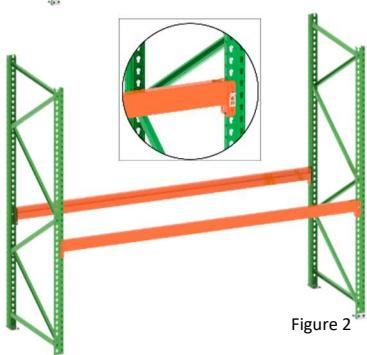

Figure 2
3. Figure 2: Carefully holding the assembled frame with beam attach connect the beam to the other frame in vertical position making sure to hook the beam at the same height as the first.